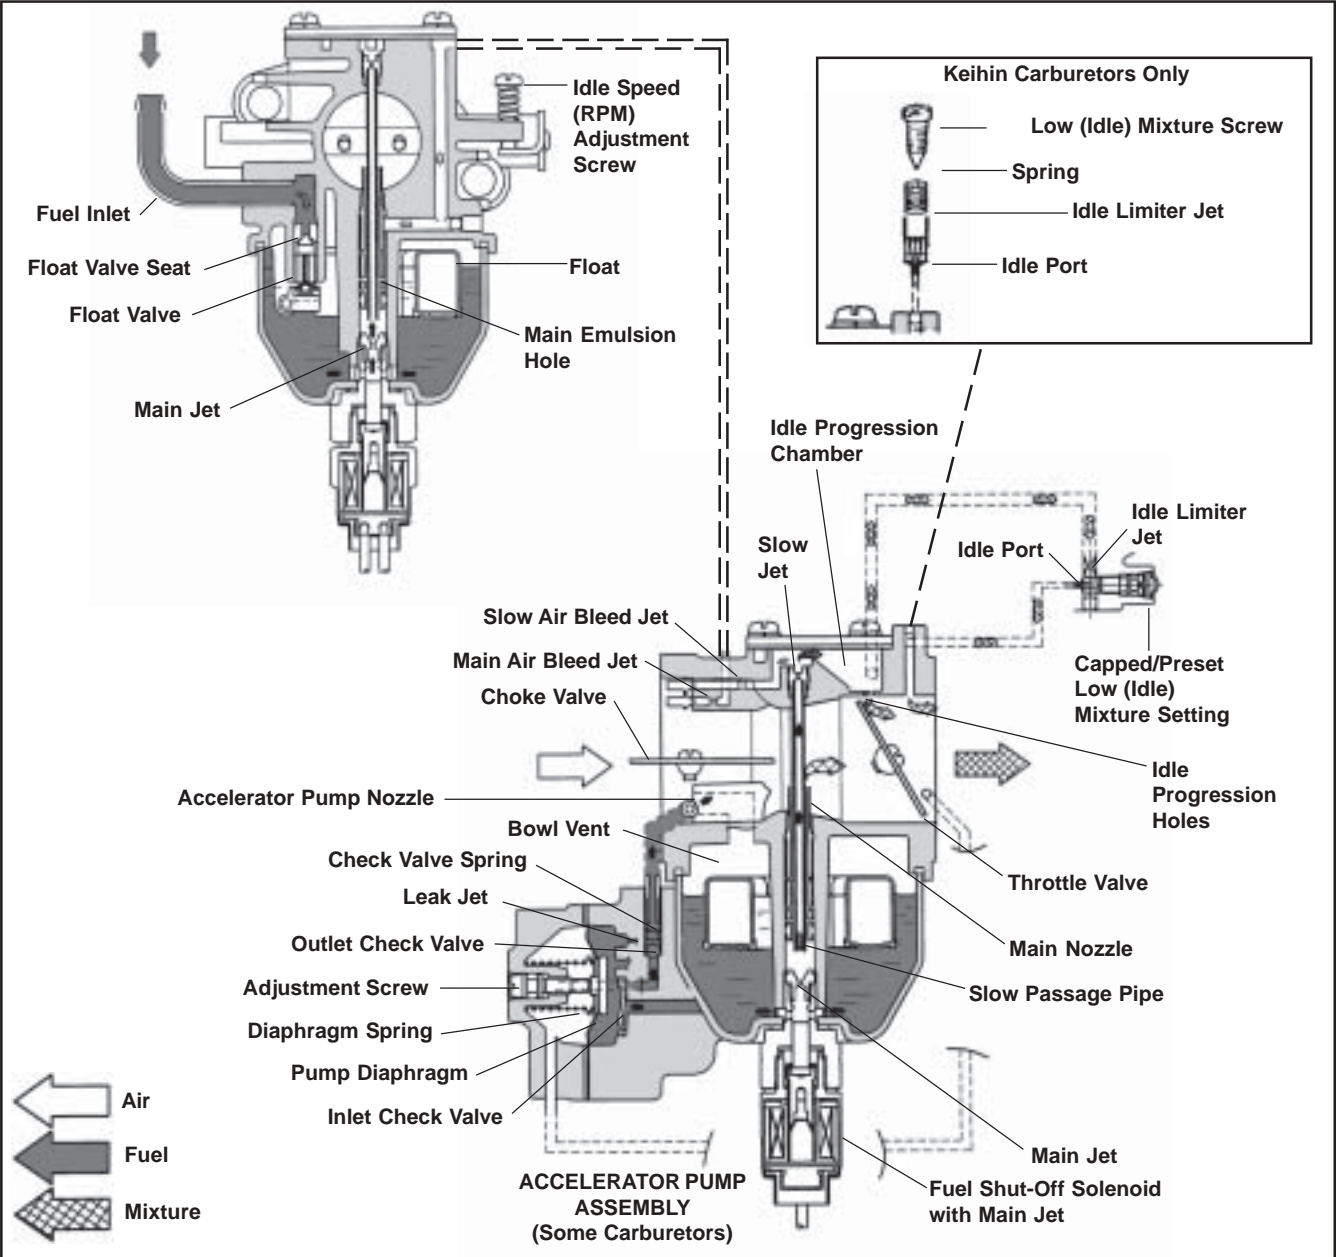

Figure 5-3. Slow Circuit.
**Slow Circuit:** (See Figure 5-3) At low speeds the engine operates only on the slow circuit. As a metered amount of air is drawn through the slow air bleed jet, fuel is drawn through the main jet and further metered through the slow jet. Air and fuel are mixed in the body of the slow jet and exit to the transfer port. From the transfer port this air fuel mixture is delivered to the idle progression chamber. From the idle progression chamber the air fuel mixture is metered through the idle port passage. At low idle when the vacuum signal is weak, the air fuel mixture is controlled by the setting of the idle fuel adjusting screw. This mixture is then mixed with the main body of air and delivered to the engine. As the throttle plate opening increases, greater amounts of air fuel mixture are drawn in through the fixed and metered idle progression holes. As the throttle plate opens further the vacuum signal becomes great enough so the main circuit begins to work.